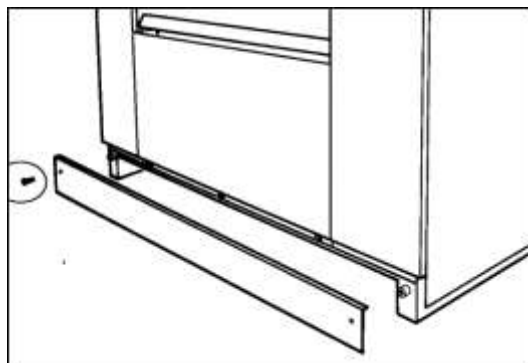

Fig. 2.9
- Assemble the toe plate (Fig. 2.9).